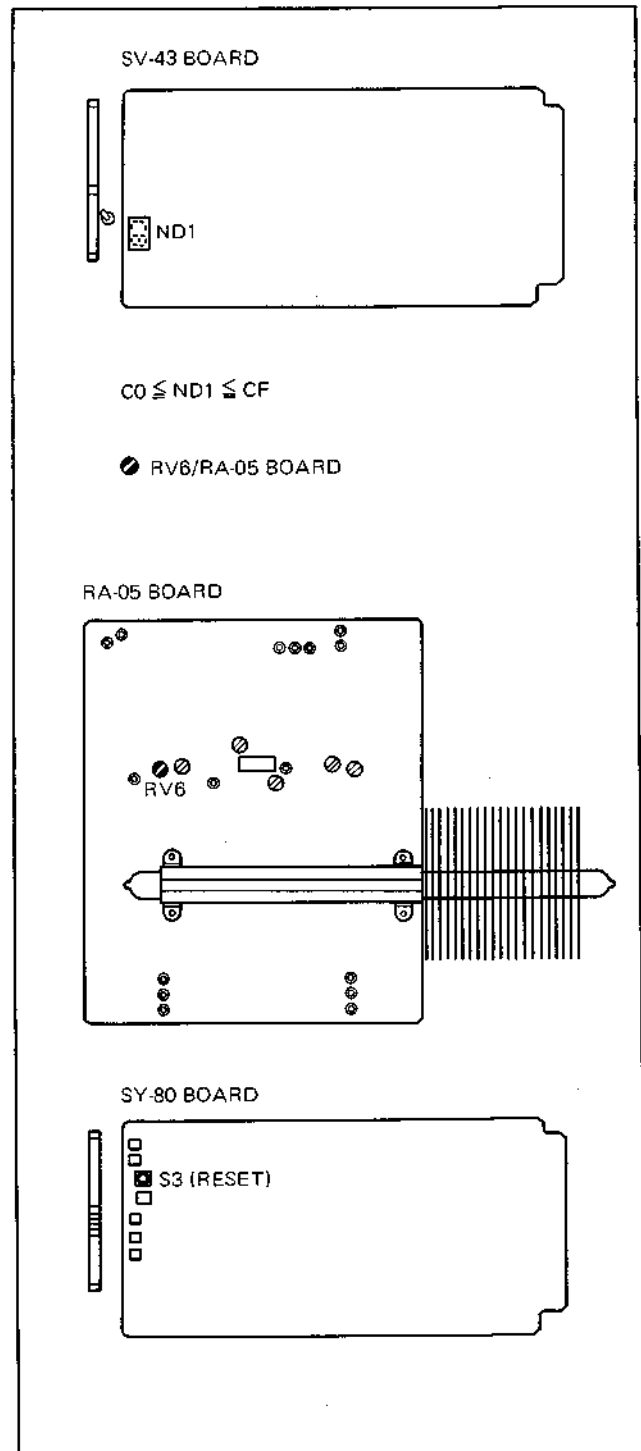

Fig. 6-13. T Reel Motor Torque Adjustment
d. After motor stop, confirm that the number shown in Fig 6-13 is indicated by the display element ND1 on the SV-43 board. If necessary, adjust RV6 on the RA-05 board.